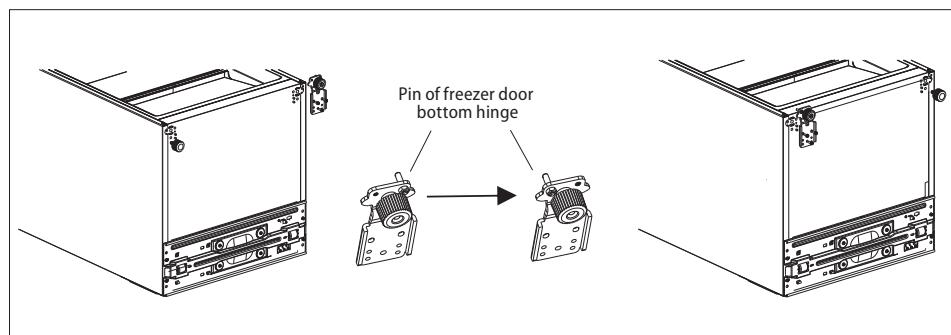

Fig. 3
- Remove the blind plugs and the bottom hinges of the freezer (Fig. 3).
- Move the pin for fixing the freezer door to the other side of the freezer bottom hinge (Fig. 3). Install the freezer bottom hinge on the other bottom side of the unit as shown in Fig. 3.